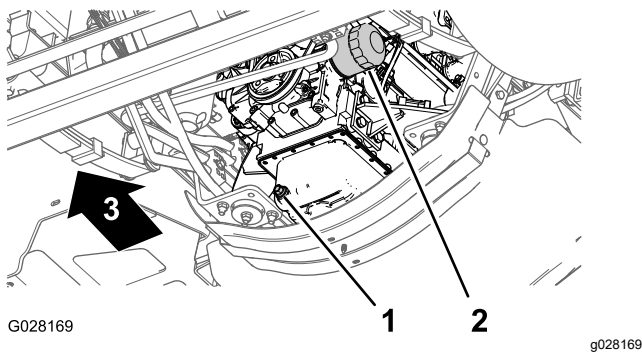

Figure 76
3. Align a drain pan under the engine oil filter (Figure 76).
4. Remove the old oil filter (Figure 76).
8. Install the oil filter to the filter adapter and turn the oil filter clockwise until the rubber gasket contacts the filter adapter, then tighten the filter an additional 1/2 turn (Figure 76).
1. Align a drain pan under the drain plug (Figure 76).
2. Remove the drain plug and allow the oil to drain completely (Figure 76).